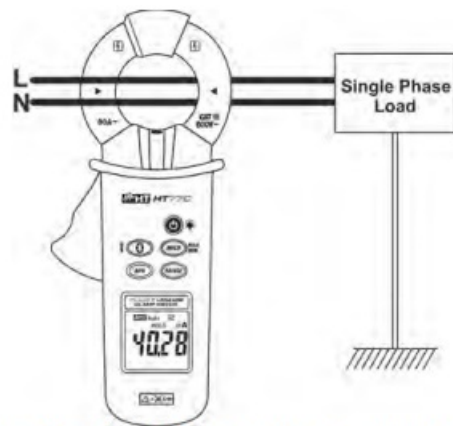
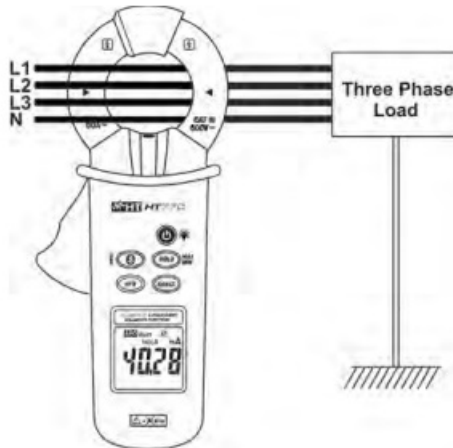

Fig. 5: Measuring leakage current with indirect method in a single phase load
Fig. 7: Measuring leakage current with indirect method in a three phase load
2. Open the clamp jaw and connect the clamp as shown in Fig. 5 or Fig. 7. The leakage of the current value will be shown on the display